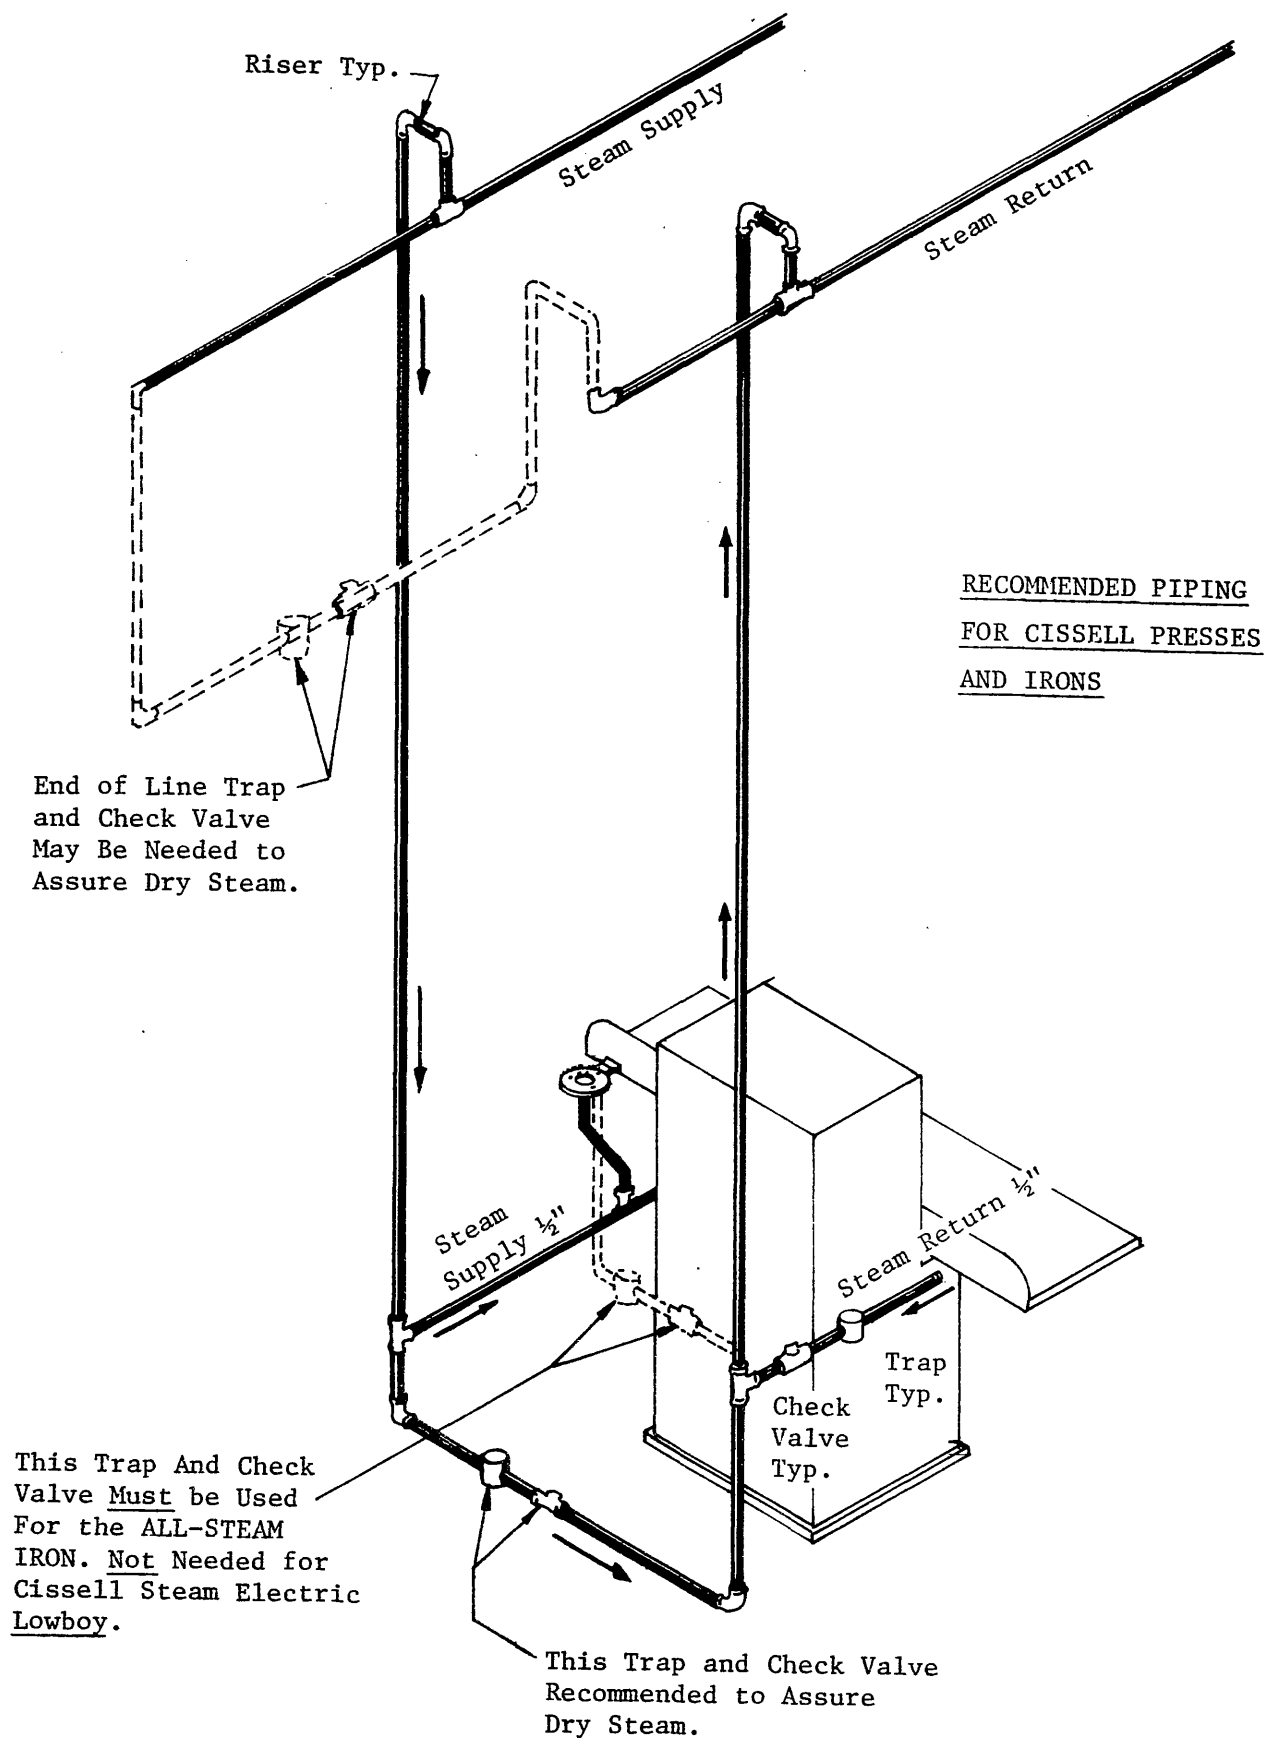

FIGURE 4A - AIR TUBING & ELECTRICAL CONNECTIONS
20. See Fig. 4a - Connect the plastic tubing under the table to the bottom of the fabric selector which is mounted to the table. An arrow on the selector indicates the direction of air flow from in to out. The two black plastic tubes are labeled (1) and (6). Connect (1) to the inlet, (6) to the outlet of the selector.
21. Slide the angles of the control box into the U channels until the front of the box is about even with the front of the table. Insert the 9371 screw (10) when the pre-drilled holes are aligned.
22. See Fig. 4a - Connect the six remaining black plastic tubes (8), (4), (1), (7), (2) and (12) as shown in Fig. 4a.
23. Connect the electrical wiring as shown on Fig. 4a - The electrical power required is 120 volts single phase at 1/2 ampere.
All of the controls are 240 volts, the 120 volt machine uses a transformer to obtain the 240 volts for controls. The machine must be properly grounded to the earth ground connection located near the electrical connection block. The wiring connection is in the electrical control box located on the right front of the machine and is accessed by removing the cover plate. Fig. 4b is a line to line wiring schematic for reference. Referring to Fig. 4a there are two openings (1) and (2) on the rear of the control box. Remove the snap-in nameplate front panel located on the front of the press between the foot pedals and find the plastic conduit with two wires connected to the cancel switch, install these through hole (1) and connect the wires to terminals 2 and 4. Bring electrical power to hole (2) in accordance with local electric codes requirement or in the absence of local codes, with the National Electrical Code ANSI/NFPA No. 70-1981. Make wiring connections as shown in Fig. 4a.